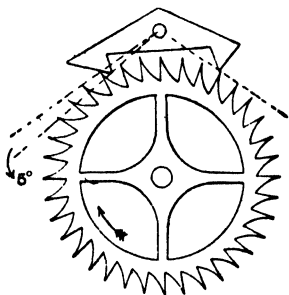

Fig. 36.—French Recoil Escapement
**Setting the Depth.** — Fig. 36 shows the ordinary recoil escapement found in French clocks. It acts in exactly the same way as the English recoil escapement, but the 'scape wheel has more teeth than the English one, and the pallets do not embrace so large a portion of the wheel, consequently the angles of the pallet faces are different, and cannot be relied on as an indication of correctness as in the English form. Also, being more "on the top of the wheel," placing the pallets a little closer deepens the action without very much affecting the equality of the drop on each pallet. To alter the depth, the front pallet pivot is always in an eccentric brass disc with a screwdriver slit across it, by means of which it may be turned round, and the pallets moved a trifle nearer to the wheel. When worn, these pallets become cut into grooves, which should be ground out with emery buffs, as before described, and, being small, great care must be taken that the corners are not unduly rounded off. After buffing and polishing, the depth will need a little readjustment by means of the eccentric disc just referred to, and if the drop becomes unequal, a trifle off one pallet back as described in connection with the English recoil escapement will correct it.